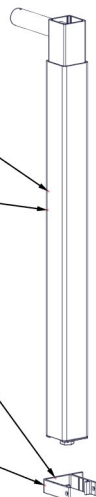

FIGURE 1.3
TURN DOCK UPSIDE DOWN AND BLOCK CORNERS (OR USE A SOFT SURFACE) TO PROTECT THE DECK SURFACE (FIGURE 1.1). INSTALL (1) 1/2" X 1" BOLT AND (1) 1/2" NUT INTO EACH POCKET WELDED ON THE DOCK (FIGURE 1.2). SLIDE THE WHEEL KIT BRACKETS ONTO THE WHEEL KIT LEGS (FIGURE 1.3).